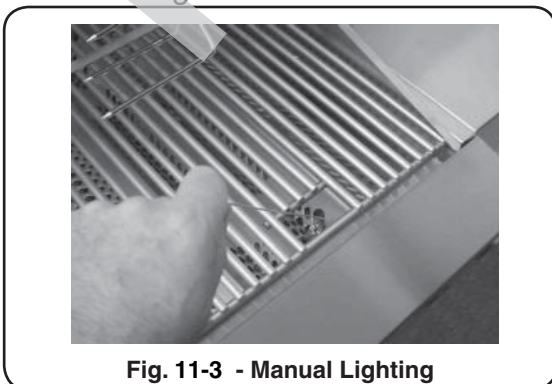
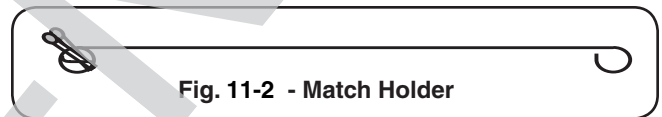

Fig. 11-3 - Manual Lighting
Fig. 11-2 - Match Holder
**REMEMBER:** FOR SAFE MANUAL LIGHTING, PLACE A BURNING MATCH OR BUTANE LIGHTER BESIDE THE BURNER - **THEN TURN ON THE GAS** (see Fig. 11-3).
2. Insert either a burning long-barrel butane lighter, a burning long-stem match, or a burning match held by a wire extension holder (Fig. 11-2) through the cooking grids to the burner. (Fig. 11-3). For backburners, hold the flame against the perforated material of the backburner. For sideburners, hold the flame against the burner.